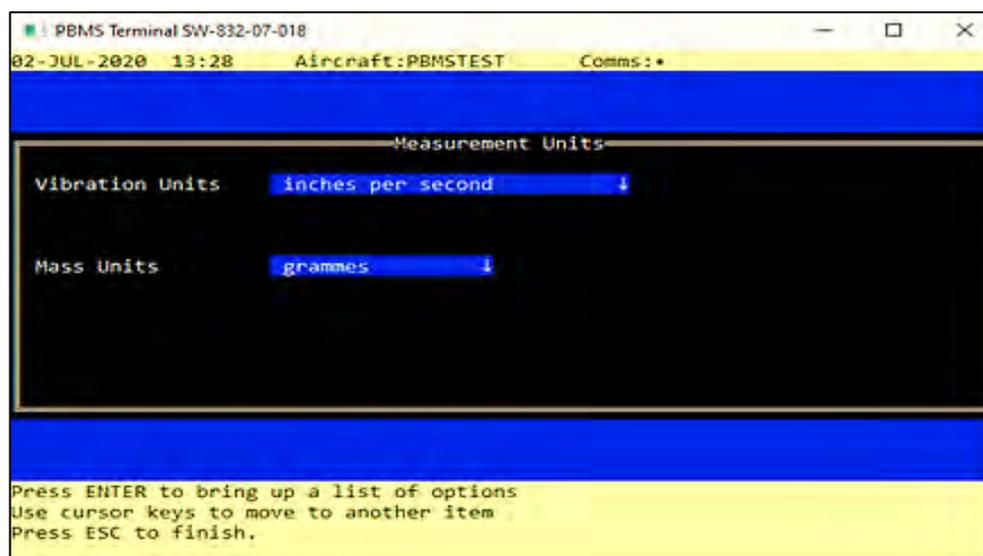

Figure 5-2 Measurement units
- (1) Select Measurement Units from the Set-up Menu and press <Enter>. The Measurement units will be shown on the PBMS Terminal (**Ref Fig 5-2**). These are the Standard measurement units.